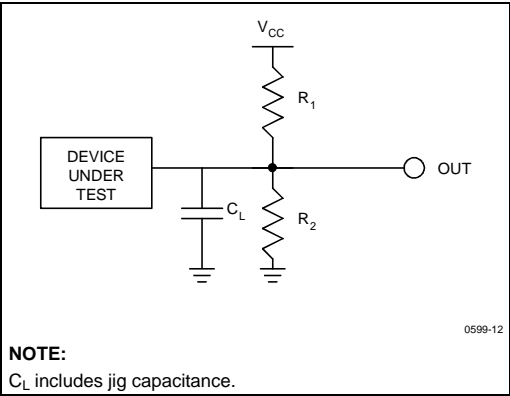

Figure 11. Test Configuration
4. See *Test Configuration* (Figure 11), 5 V High-Speed Test component values.
5. See *Test Configuration* (Figure 11), 5 V Standard Test component values.